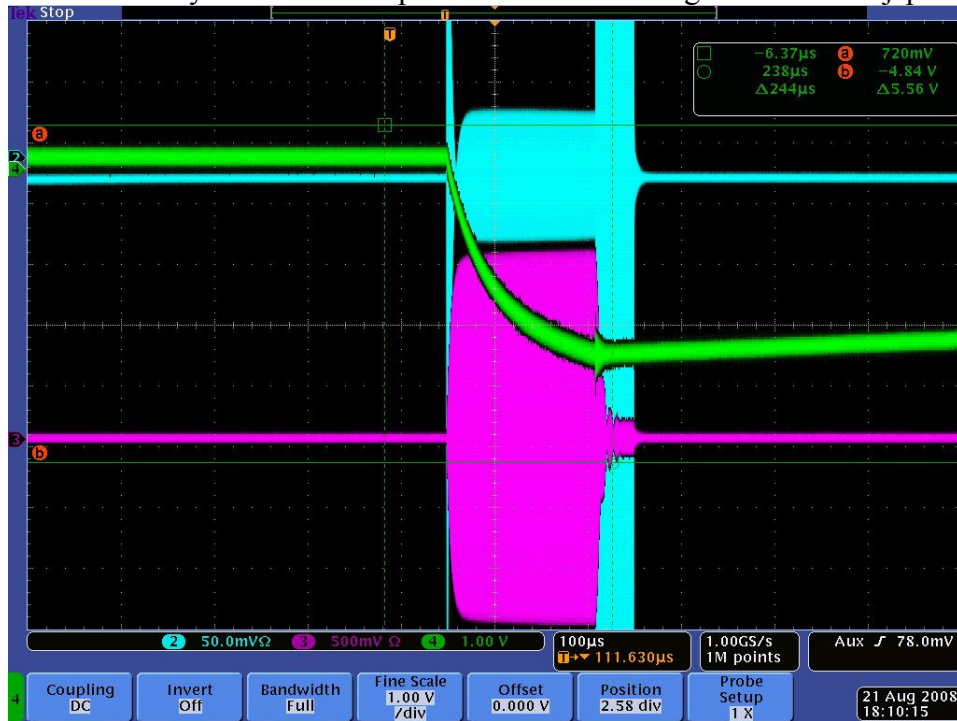

Figure 1: Ch 2 = REV25 - the spark is visible at the end of the pulse; Ch3 = cavity gap monitor; Ch4 = cavity coupler
- 8/21, 8/25: Various schemes to condition away the alleged sparking (see Figure 1) did not appear to improve the situation. We had tried higher power levels (up to 12kW) at shorter pulse width, lower power levels at longer pulse width, and fixing a permanent magnet to the cavity coupler. Note that we did not observe much vacuum activity. The pressure was almost always less than 5E-08 torr.